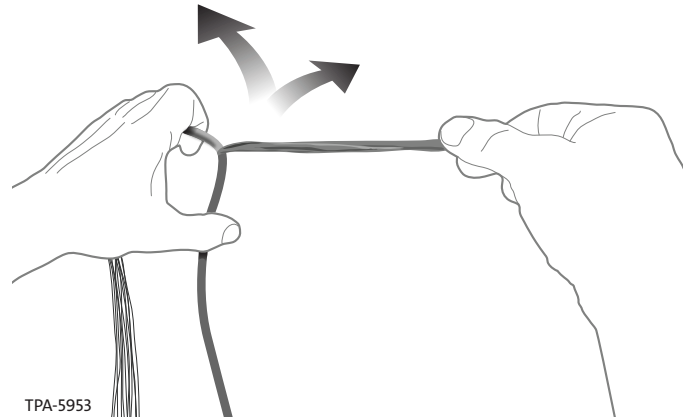

Figure 21
Step 2: Continue to peel subunit jacket away from ribbons as indicated in Figure 21.